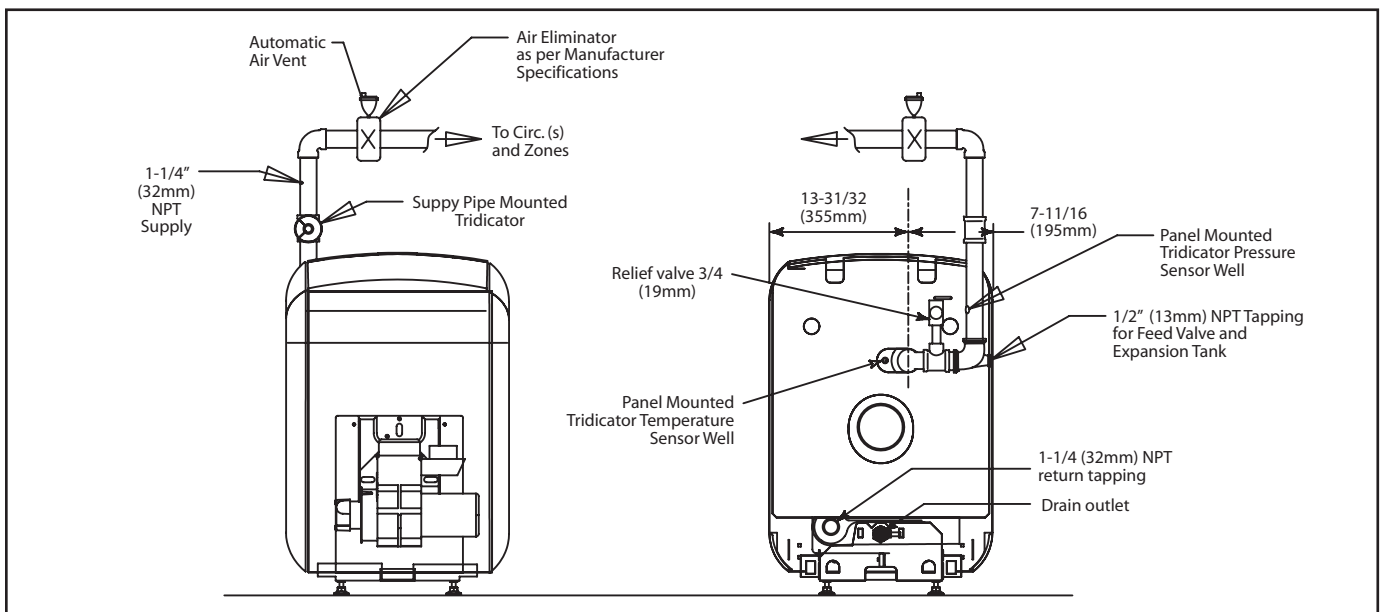

Figure 4. Air Eliminating System or Alternating Collecting System. Pipe off to a safe place the relief valve and drain outlet.
- A. **DIAPHRAGM-TYPE COMPRESSION TANKS** are used to control system pressure in an **AIR ELIMINATING SYSTEM**: an automatic air vent is used to REMOVE air from the system water. (See figure 4)
The automatic air vent should be installed in the top of the boiler, as in figure 4 and at radiation high points.
- D. **PUMP LOCATION** - Locating low-head pump(s) on return to boiler is only acceptable in residences of one or two stories. The pump location shown in figure 4 is required in large, multi-story building installations, especially when high-head pumps are used and is also recommended for all applications.